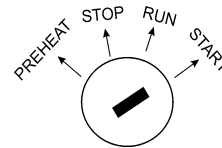

Figure 23. Ignition Switch 'START'
8. Once the preheat indicator lights, turn the ignition key to 'START' until the engine starts (Figure 23). Then release the key to 'RUN'.